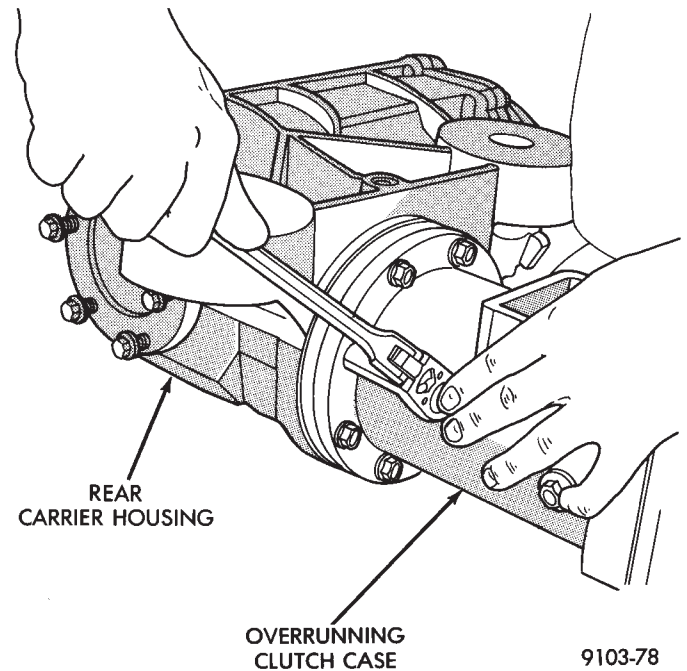

Fig. 6 Overrunning Clutch Case to Rear Carrier Bolts
- (3) Drain fluid from overrunning clutch case.
- (4) Remove overrunning clutch case to rear carrier case bolts (Fig 6).